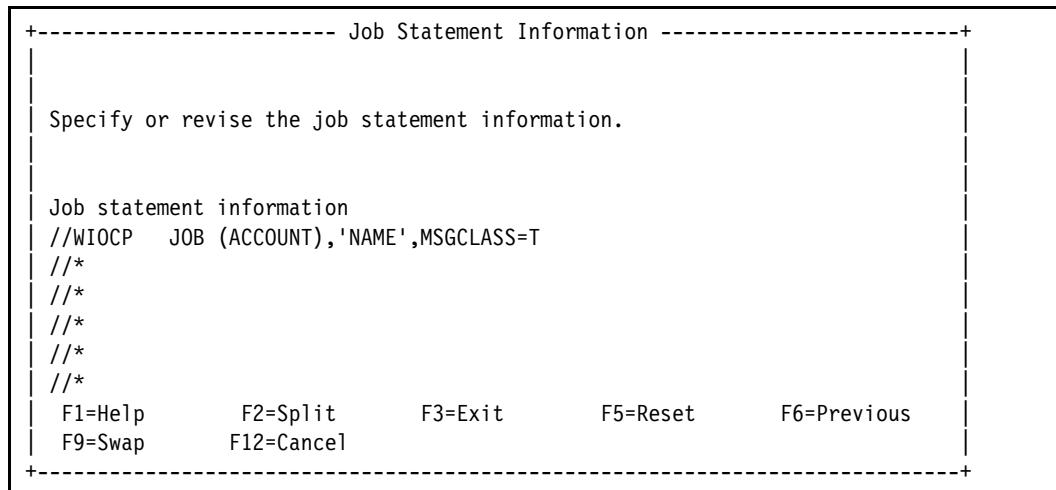

Figure 5-14 Job Statement Information: Option to override job statement cards
- The Job Statement Information panel is displayed (Figure 5-14). Enter the job statements as required by the installation and press **Enter**. HCD submits the job to update the IOCDS.